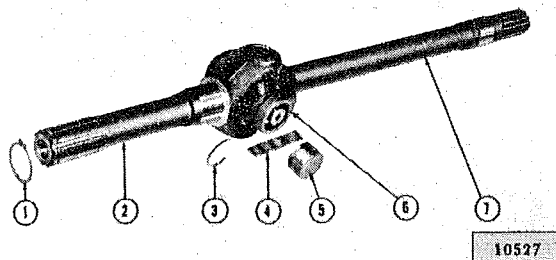

FIG. 131 - FRONT AXLE UNIVERSAL JOINT
The universal joint is shown in Fig. 131 and 132. It is a cardan cross joint with needle bearings similar to the propeller shaft universal joint. The snap ring slots on the axle joints are in the bearing retainer (5, Fig. 131). Overhaul procedure is outlined below. Additional service information can be found in Section K.
a. Pinch the ends of the snap ring (3, Fig. 131) together with a pair of pliers. If the rings do not readily snap out of the groove, tap the end of the bearing lightly which will relieve pressure against the rings. Remove the snap rings.
b. Press on the end of one bearing retainer (5) until the opposite bearing is pushed from the journal of the outer shaft (2).
c. Turn the joint over and press the first bearing back out of that arm by pressing on the exposed end of the universal joint journal assembly (6). Use a soft ground drift with a flat face about 1/32" (0,794 mm.) smaller in diameter than the hole in